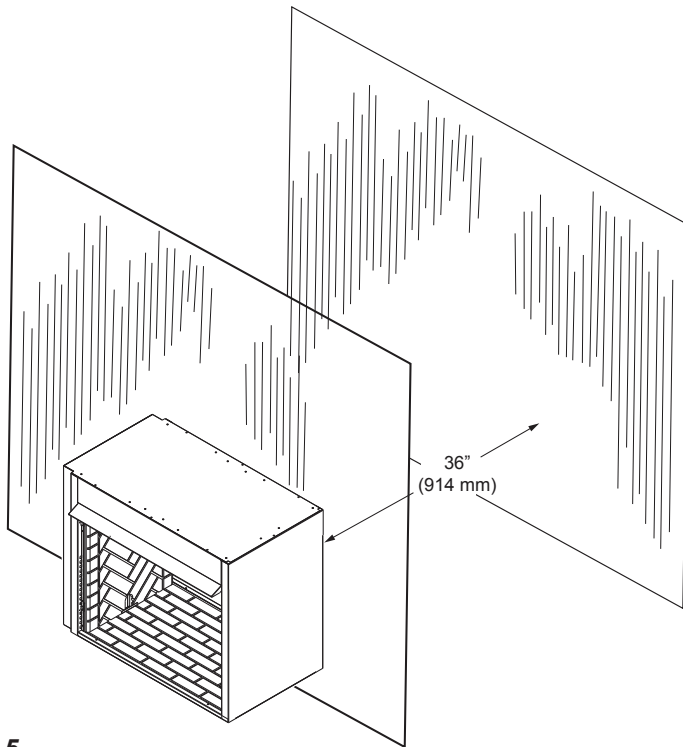

Figure 5 - Parallel Wall Clearance
Ensure that minimum clearances shown in *Figures 5 through 9* are maintained. Left and right clearances are determined when facing the front of the firebox.
4. **Parallel Wall Clearance** — The clearance from the opening of the firebox to any wall that is parallel to the opening should not be less than 36" (LSTF36 and LPF36 models only). Refer to *Figure 5*.